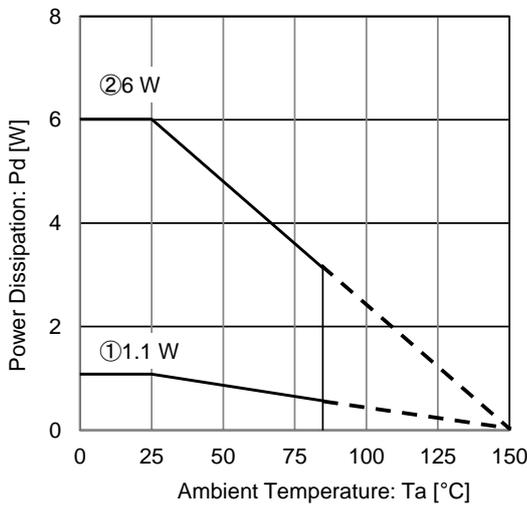

Figure 75.
(Figure 75 ② $\theta_{ja}=20.8 \text{ }^\circ\text{C/W} \rightarrow -48.1\text{W}/^\circ\text{C}$